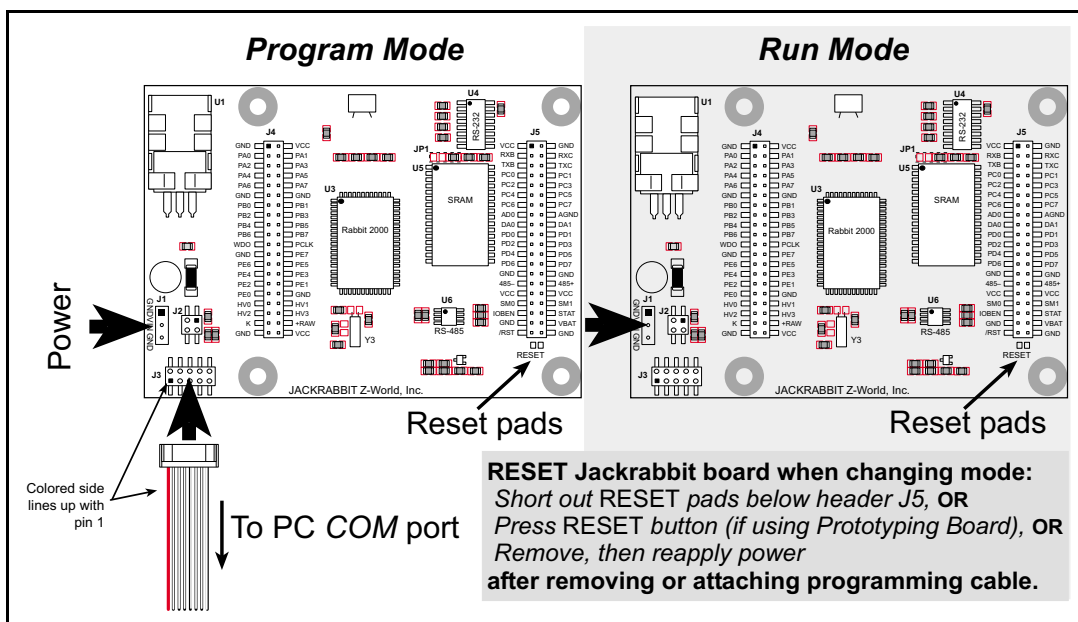
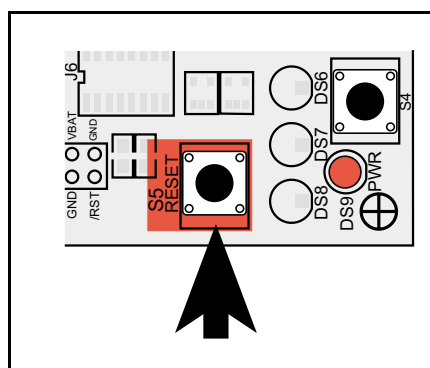

Figure 4. Jackrabbit Program Mode and Run Mode Setup
Figure 5. Location of Prototyping Board Reset Button
The Jackrabbit is automatically in Program Mode when the programming cable is attached, and is automatically in Run Mode when no programming cable is attached. See Figure 4.
2. Reset the Jackrabbit board. You may do this as explained in Figure 4. Figure 5 shows the location of the RESET button on the Prototyping Board.